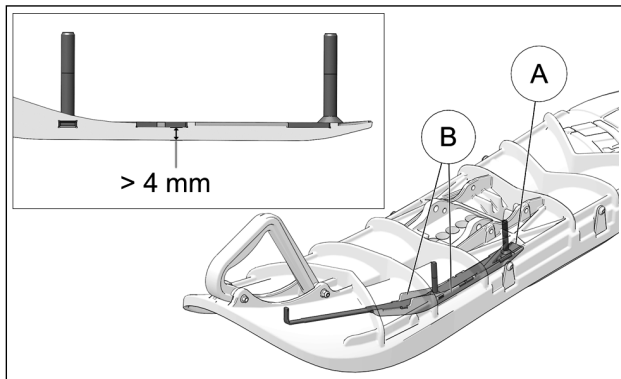

Figure 61
If the ski lacks support through turns on ice, check condition of the skag (A). If the blades (B) show deformations or are less than 4mm in height (8mm when new), they do not provide enough support. The skag should be replaced. See Figure 61.